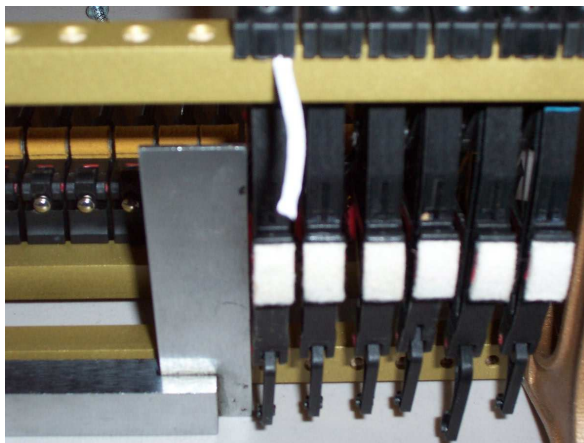

Fig. 16
- 1. In the first traveling, the repetition is only squared to the rail. This will get the repetition in approximately the correct position for the second traveling operation, which occurs after the hammers are spaced to the strings. (See Fig. 16)